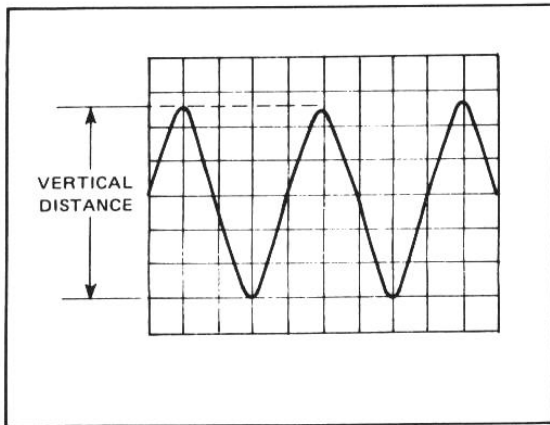

Figure 2-14.
2. Adjust the TIME/DIV switch (24) or (25) for two or three cycles of waveform, and set the VOLTS/DIV switch (10) for the largest possible totally on-screen display.
3. Use the appropriate vertical POSITION control (17) or (18) to position the negative signal peaks on the nearest horizontal graticule line below the signal peaks, per Figure 2-14.
4. Use the horizontal POSITION control (29) to position one of the positive peaks on the central vertical graticule line. This line has additional calibration marks equal to 0.2 major divisions each.
5. Count the number of divisions from the graticule line touching the negative signal peaks to the intersection of the positive signal peak with the central vertical graticule line. Multiply this number by the VOLTS/DIV switch setting to get the peak-to-peak voltage of the waveform. For example, if the VOLTS/DIV switch were set to 2 V, the waveform shown in Figure 2-14 would be 11.2Vp-p (5.6 div X 2V).